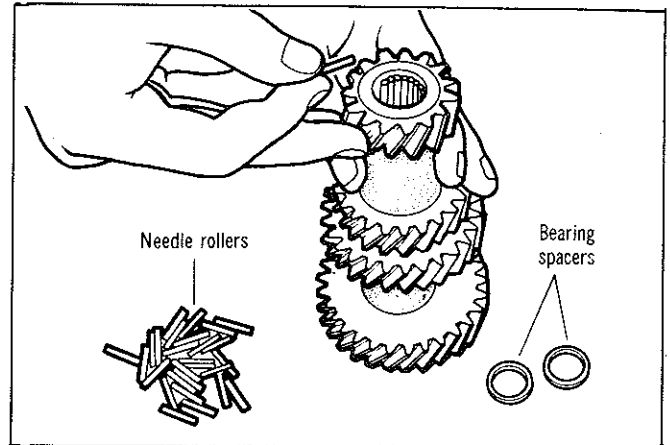

Fig. 23—Installing needle rollers
(27) Install the needle rollers and the bearing spacers in the front and rear cluster gear bores. Applying grease to the rollers will assist in holding them in position. The spacers are installed on the outside of the rollers, Fig. 23.
(28) Attach the front and rear thrust washers to the cluster gear with grease.
(29) Carefully position the assembled cluster gear into the case, ensuring the thrust washer tongue fits into the case groove.
(30) Install the cluster gear shaft from the rear of the case, ensuring the thrust washers and needle rollers are correctly positioned.
(31) Install the cluster gear shaft stopper plate.
(32) Install a new input shaft seal onto the bearing retainer, fill the seal lip with grease.